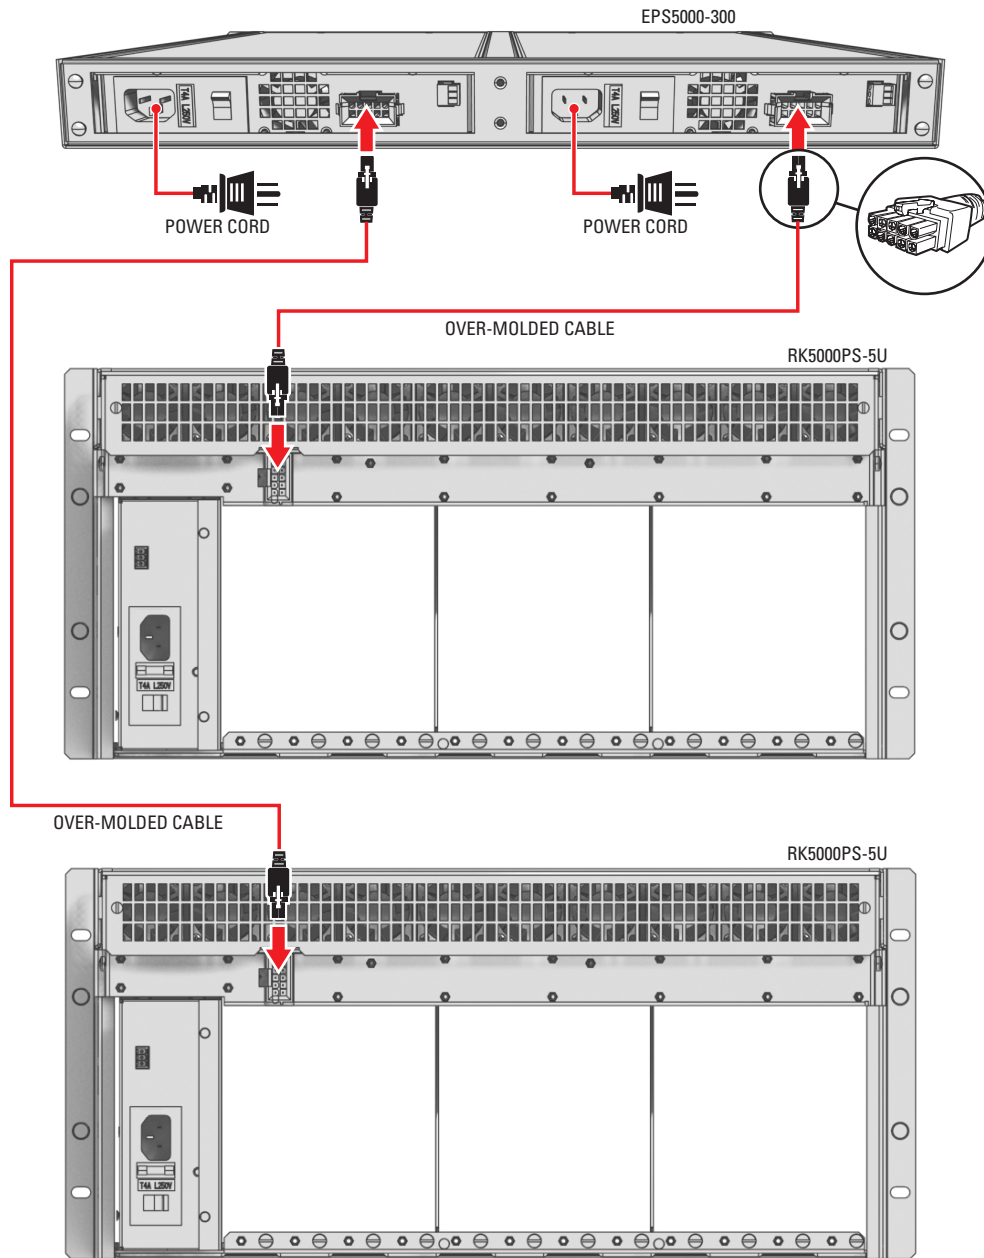

Figure 8. Connecting to an RK5000PS-5U
3. Connect each power supply to the RK5000PS-5U using the supplied over-molded cables. Figure 8 shows the EPS5000-300 providing redundant power to two RK5000PS-5U.